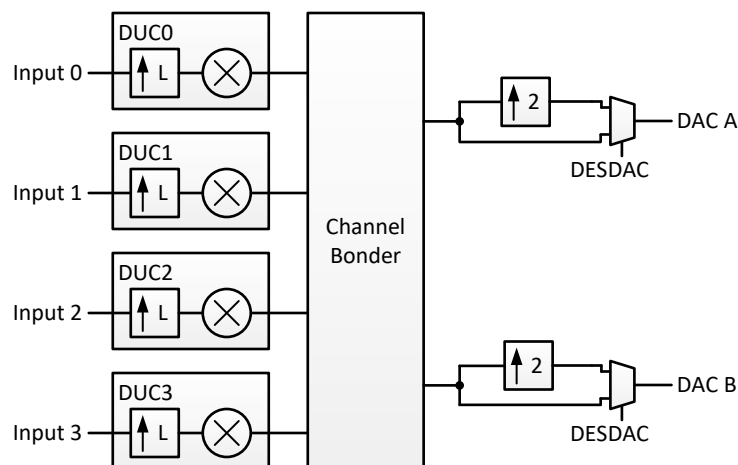

Figure 7-13. DUC Block with real output
The digital signal processing blocks are shown in Figure 7-13. The device includes four digital up-converter (DUC) blocks supporting four complex (IQ) input streams that can be combined at different RF frequencies. The four DUCs can be flexibly assigned and summed together for either DAC output in the channel bonder. The final signal processing block is a extra interpolate by 2 filter for use with DES2XL/H mode.